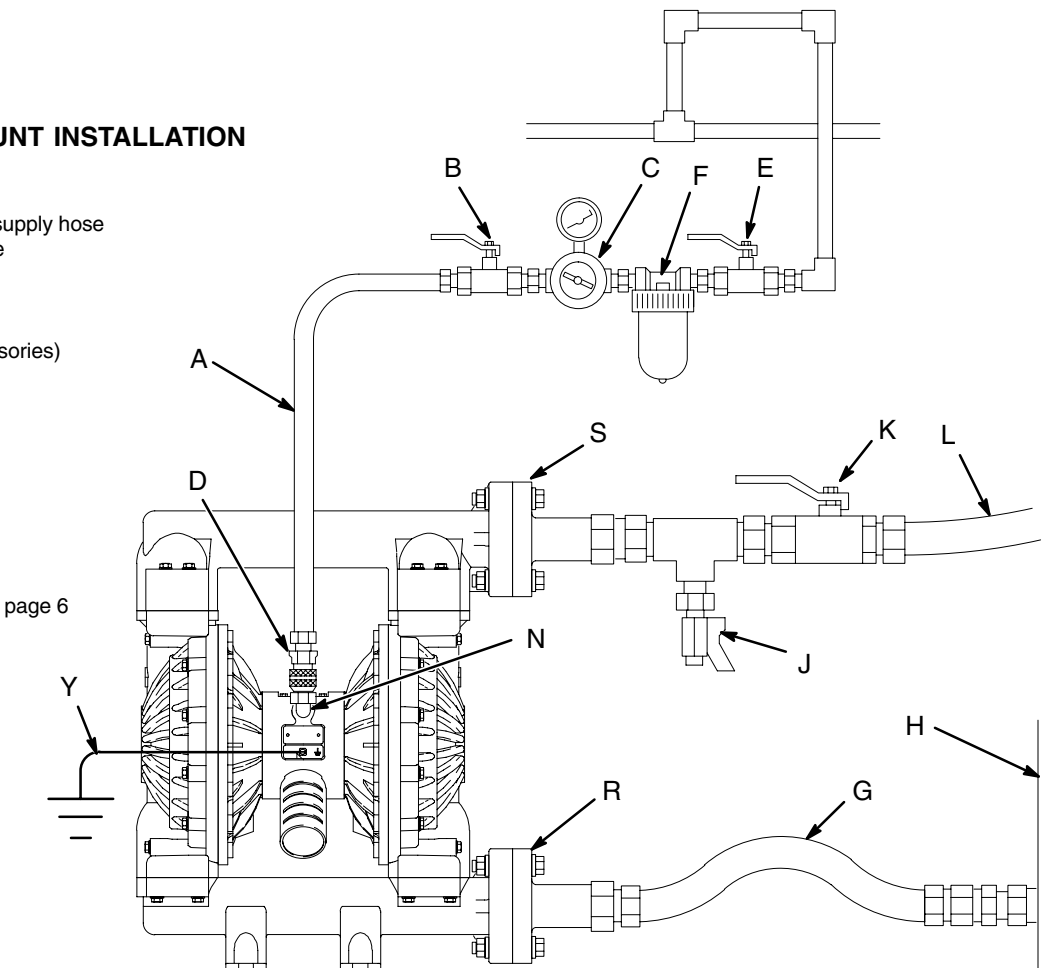

Fig. 2
- The Typical Installation shown in Fig. 2 is only a guide for selecting and installing system components. Contact your Graco distributor or Graco Technical Assistance (see back page) for assistance in planning a system to suit your needs.
A bleed-type master air valve (B) is required in your system to relieve air trapped between this valve and the pump. Trapped air can cause the pump to cycle unexpectedly, which could result in serious injury, including splashing in the eyes or on the skin, injury from moving parts, or contamination from hazardous fluids. See Fig. 2.
1. Install the air line accessories as shown in Fig. 2. Mount these accessories on the wall or on a bracket. Be sure the air line supplying the accessories is electrically conductive.
- a. Install an air regulator (C) and gauge to control the fluid pressure. The fluid outlet pressure will be the same as the setting of the air regulator.
- b. Locate one bleed-type master air valve (B) close to the pump and use it to relieve trapped air. See the **WARNING** at left. Locate the other master air valve (E) upstream from all air line accessories and use it to isolate them during cleaning and repair.
- c. The air line filter (F) removes harmful dirt and moisture from the compressed air supply.
2. Install an electrically conductive, flexible air hose (A) between the accessories and the 1/2 npt(f) pump air inlet (N). See Fig. 2. Use a minimum 1/2" (13 mm) ID air hose.
3. Screw an air line quick disconnect coupler (D) onto the end of the air hose (A); be sure the coupler porting is large enough to not restrict the air flow, which will affect pump performance. Screw the mating fitting into the pump air inlet snugly. Do not connect the coupler (D) to the fitting until you are ready to operate the pump.
KEY FOR FIG. 2
A fluid drain valve (J) is required to relieve pressure in the hose if it is plugged. The drain valve reduces the risk of serious injury, including splashing in the eyes or on the skin, or contamination from hazardous fluids when relieving pressure. Install the valve close to the pump fluid outlet. See Fig. 2.
1. The pump fluid outlet (S) is a 2" raised face flange. Refer to **Flange Connections** on page 9.
2. Install a fluid drain valve (J) near the fluid outlet. See the **WARNING** above.
3. Install a shutoff valve (K) in the fluid outlet line.